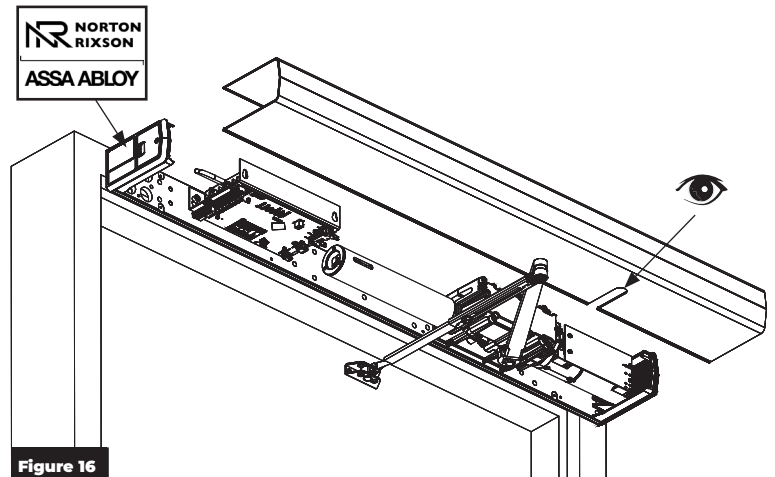

Figure 16
- Align cut-outs in cover to pinion shafts. (Figure 16)
- Attach a label plate to each end cap by snapping into place. (Figure 16)